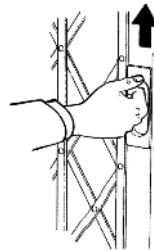

Fig. 21
- To unload the Goodsmaster, open the landing door and the inner car gate by lifting the car gate handle and sliding the car gate open using the HANDLE to avoid trapping your fingers (Fig. 21 & 22).